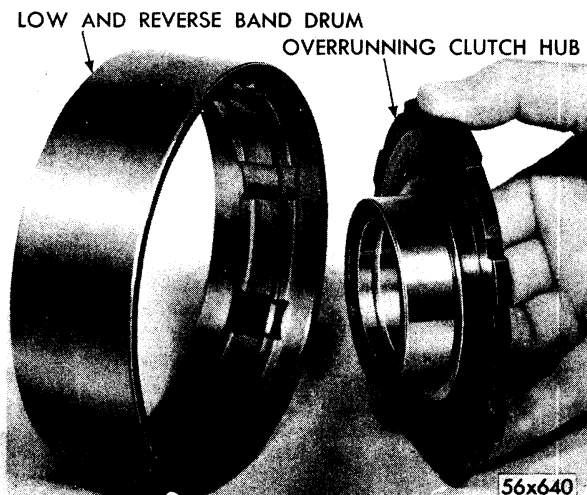

Fig. 84—Removal and Installation of Overrunning Clutch Hub in Low and Reverse Band Drum
Install gauge, Tool C-3527, in intermediate support and cam assembly, as shown in Figure 82. Remove intermediate support and cam assembly from overrunning clutch hub (Fig. 83). Using a screw driver, remove snap ring (D) from low and reverse band drum assembly (G). Remove the low and reverse planet pinion carrier assembly (E) from reverse band drum. Remove overrunning clutch hub assembly from reverse band drum, as shown in Figure 84.
Install overrunning clutch hub assembly (hub first) into snap ring side of the low and reverse band drum, (Fig. 84). Place low and reverse